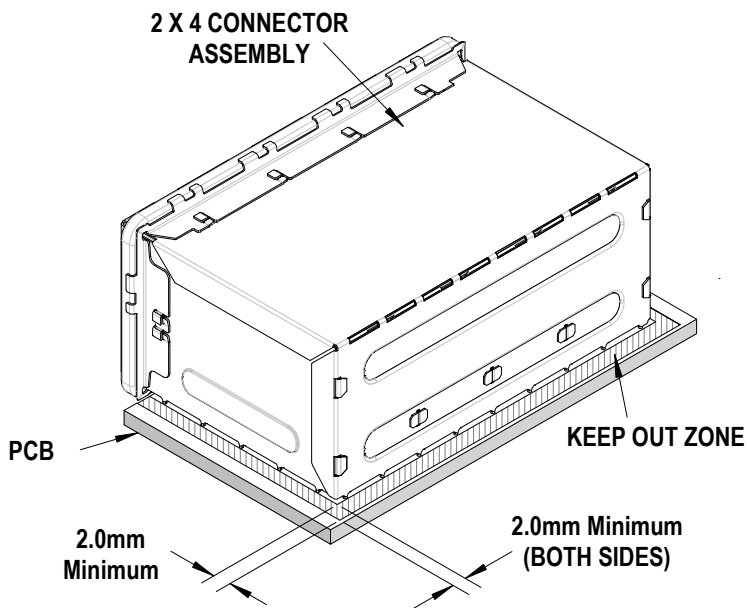

Figure 1
2. These tools require a “Keep Out Zone” around the connector free of components. The rear of the connector should be 2.0mm (0.08 in). The right and left sides should be 2.0mm (0.08 in). See Figure 1.